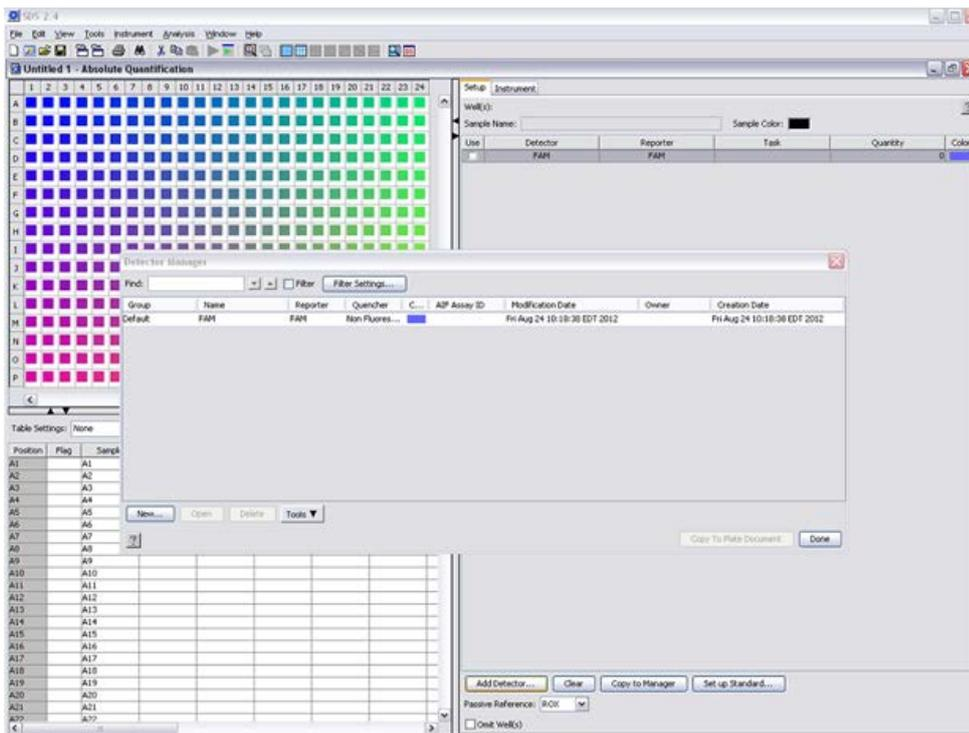

Figure 1. "Detector Manager" window.
- Select “Assay”: “Standard Curve (AQ).”
- In the “Detector Manager” window, select “FAM” for the reporter dye, click the “Copy To Plate Document” button, and click the “Done” button (see Figure 1). Ensure that “ROX” is selected for “Passive Reference.”